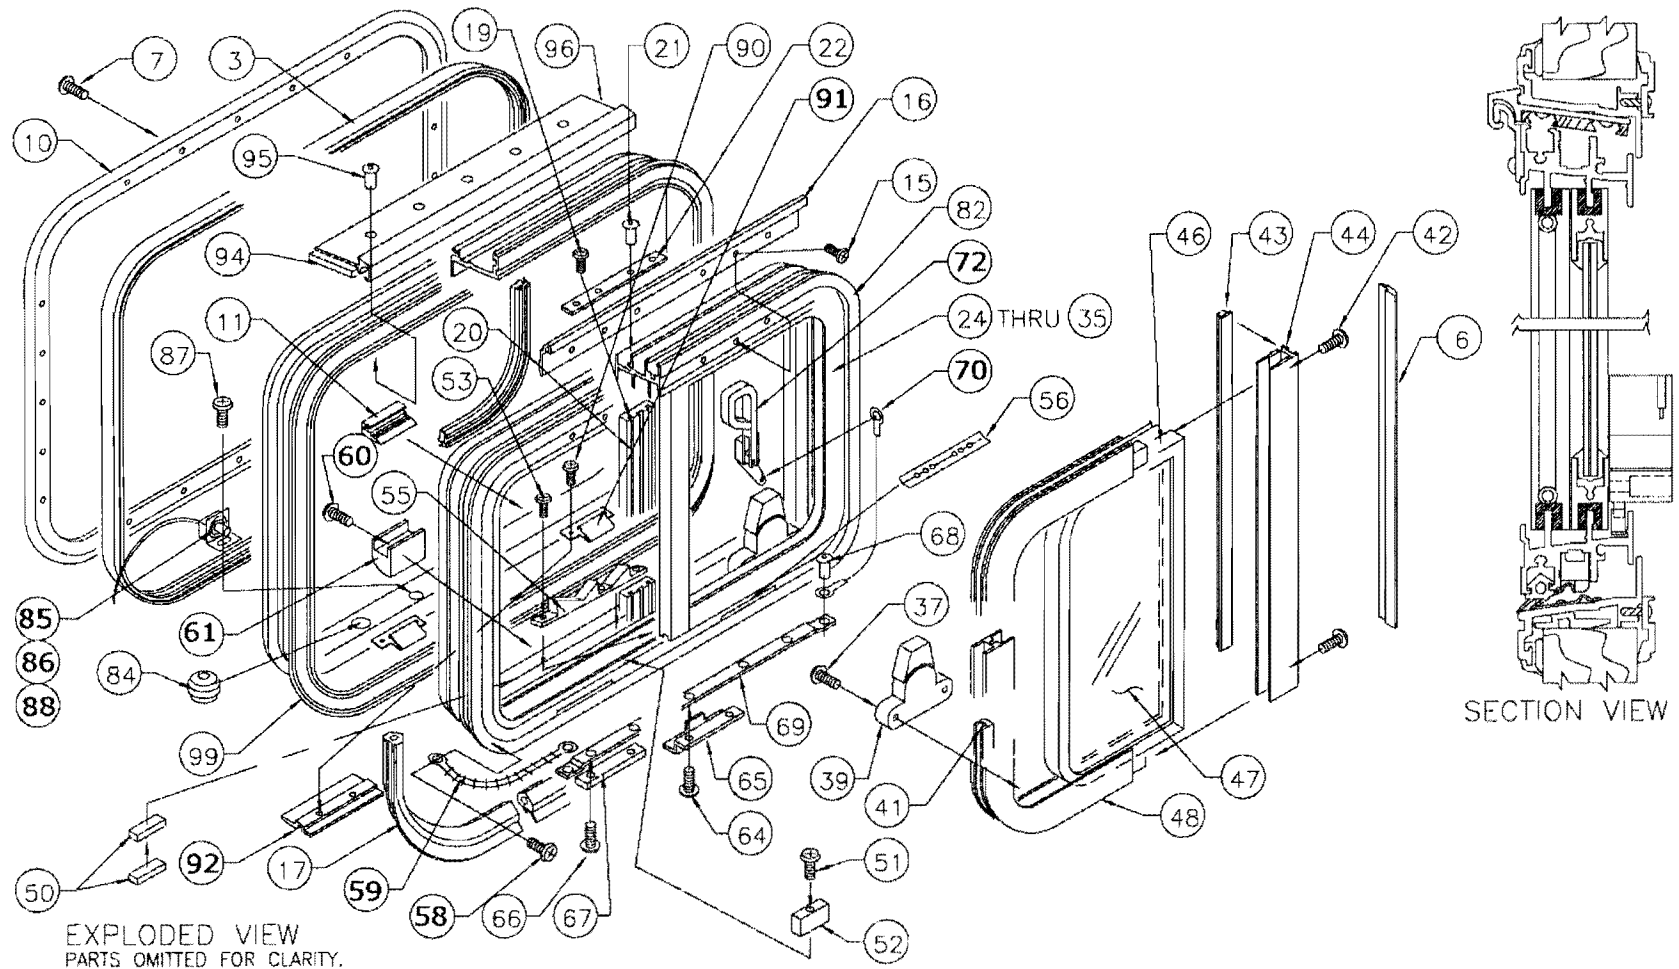

FIGURE 1
All of the parts described in this procedure are shown in **Figure 1**. The balloon numbers are used in the procedure. These same balloon numbers are used in the Bill of Material for this model window. Some of the windows purchased by Thomas are what we call "specials", or "Serial Number" windows. There are some differences between these special windows and the standard models, but these differences are not in the latch system. The drawing found on page 6 of this document shows a section through the bottom of the window with the latch parts removed and the added screws that secure the window closed.
Step 2- Review Figure 1.